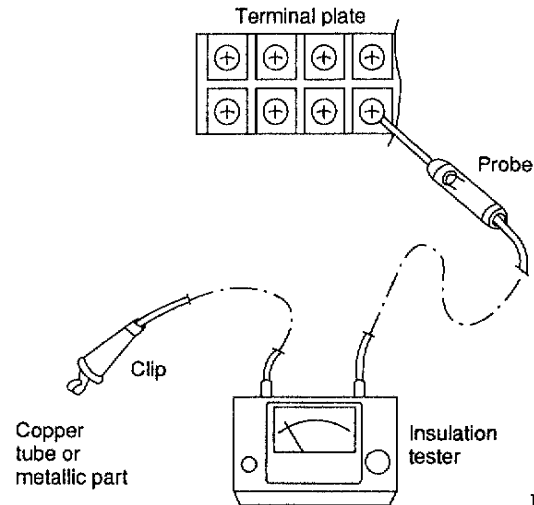

Fig. 2
In the case of RS2422B, measure the resistance by placing a probe on ① and then ② on the 4P terminal plate. (Fig. 2)
(3) Outdoor Unit
Clamp a metallic part of the unit with the lead clip of the insulation resistance tester and measure the resistance by placing a probe on ①, and then ② on the 2P terminal plate. (Fig. 2)